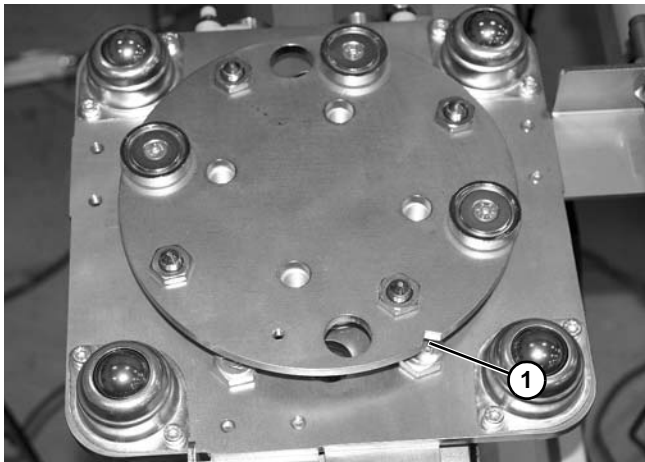

Figure 102
Be sure to mark location of mark (Figure 102, item 2) before removing rotation plate. This mark will be an aid during installation.